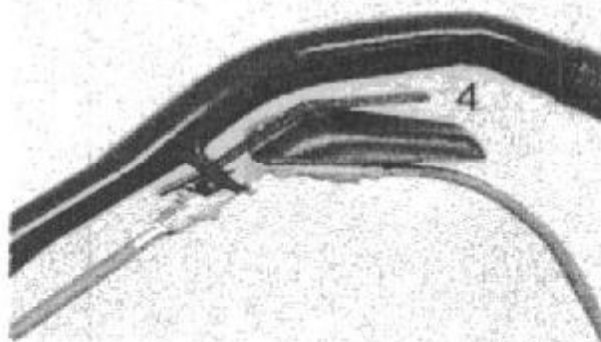

Fig.6
4. **Spray operating lever** - Controls the cleaning solution spray (Fig.6).